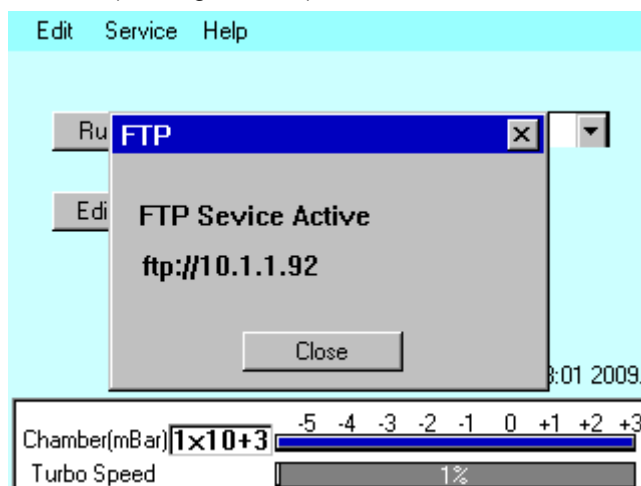

Figure 6-12. Connecting the Q150 to a network
2. A dialog box confirms that the connection to the network is active and shows its IP address (see Figure 6-12).